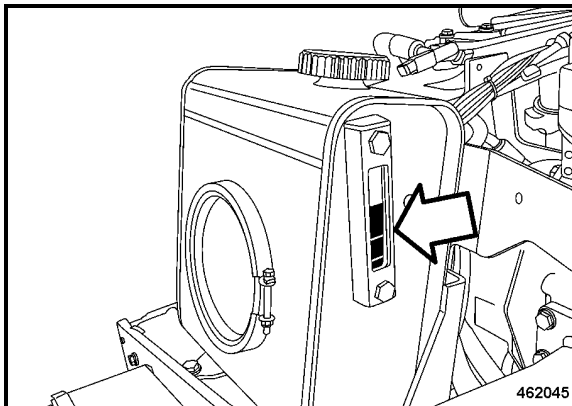

Fig. 116
- Check the oil level in the oil level inspection glass (Fig. 116).